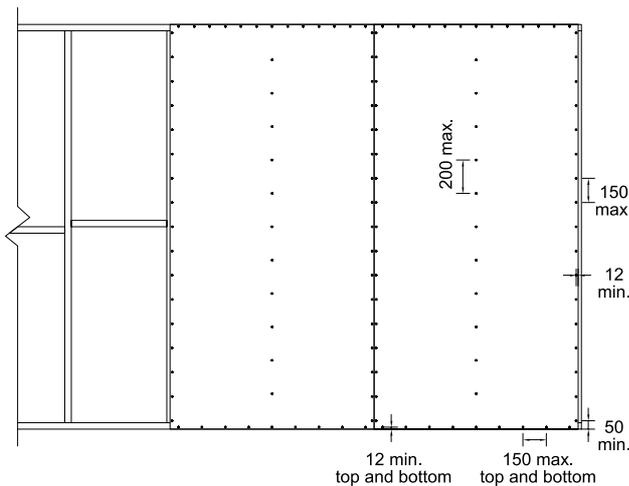

Figure 3: Nailing Detail for HardiFlex™ Sheets, PineRidge™ Lining or PanelClad™ Sheets
6mm JHFC sheets, single-sided, fixed vertically, (see Figure 3, 4 or 5b), or horizontally with set joints (see Figure 5a)	2.8
6mm JHFC sheets double-sided, fixed vertically (see Figure 3, 4 or 5b)	4.0
6mm JHFC sheets, fixed vertically (see Figure 3, 4 or 5b) or horizontally with joints set (see Figure 5a) + JHFC planks or weatherboards on other side (see Figures 6 & 7)	3.2
**Non-Cyclonic Areas:** Sheets fixed vertically in accordance with Figure 3, Section 5 and Clause 2.3.7 of this manual will achieve the bracing capacities stated in Table 1.
**Cyclonic Areas:** Sheets fixed vertically along with anchor rods in accordance with Figure 3, Section 5 and Clause 3.3 of this manual will achieve the values stated in Table 4.
HardiBrace™ Sheet Bracing fixed with standard nail pattern (see Figure 1) + 6mm JHFC sheets other side, fixed vertically (see Figure 3, 4 or 5b), or horizontally with set joints (see Figure 5a)	10.0
6mm JHFC sheets, single-sided, fixed vertically (see Figure 3, 4 or 5b) or horizontally with set joints (see Figure 5a)	5.3
6mm JHFC sheets, double-sided, fixed vertically (see Figure 3, 4 or 5b) or horizontally with set joints (see Figure 5a)	7.3
JHFC planks or weatherboards (see Figure 6 and 7) + 6mm JHFC sheets other side, fixed vertically (see Figure 3, 4 or 5b) or horizontally with set joints (see Figure 5a)	6.6